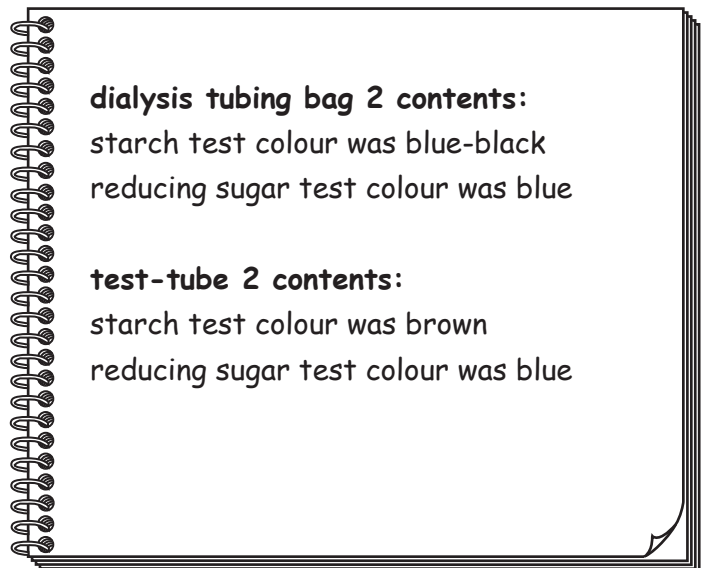

Fig. 1.2
The student's observations for the starch and reducing sugar tests in step 10 are shown in Fig. 1.2.
- (d) (i) Prepare a table and record the results of the starch and reducing sugar tests from Fig. 1.2 in the space provided.
- (ii) State **three** conclusions for the results shown in Fig. 1.2.